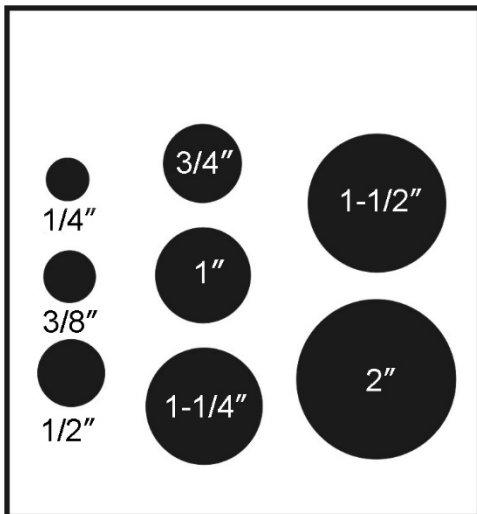

Figure 7-1:
3. Insert end of pipe into correct hole, determined by nominal size of schedule 40 pipe (see Figure 7-1). **NOTE: Insert only one pipe at a time into the machine.**